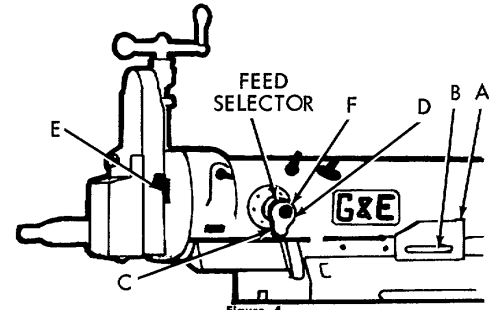

FIGURE 4.
After the stroke length and the ram position have been set and the tool slide lock (E) is released, the power downfeed can be set. (See Fig. 4).